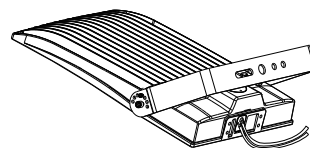

Figure 8
- Step 2: Install two small screws. (Figure 8)